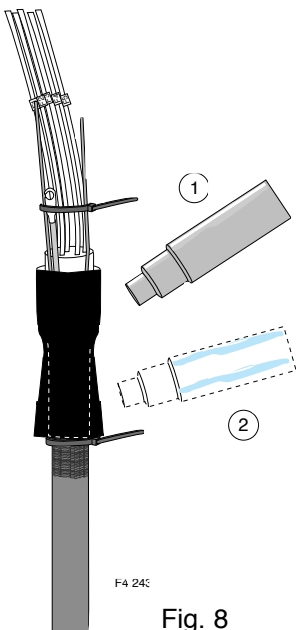

Fig. 8
12. Place a tie-wrap 1" below the ring cut. Slide the 4"-long heat-shrinkable tube over the cable components and allow it to rest on the tie wrap. The top of the tube should be roughly 1/2" below the top of the funnel. (Figure 8)